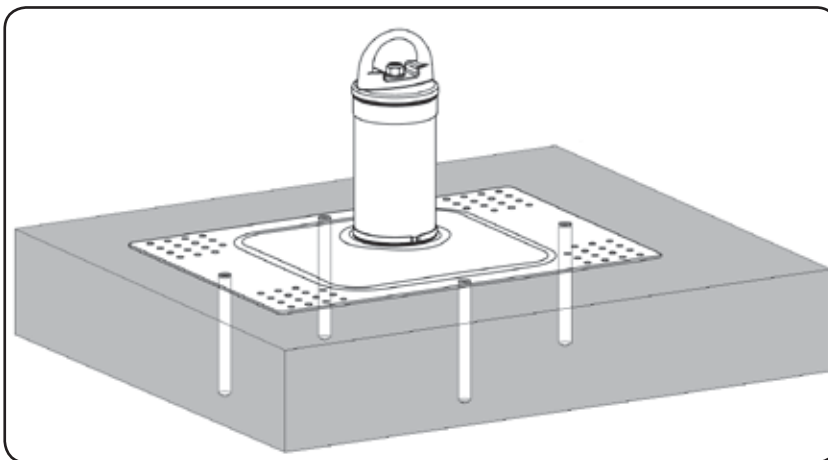

Fig. 11b
6. Then drive an expansion bolt through the base mounting hole and into the corresponding drilled hole at each of the four mounting locations (see Fig. 11b).